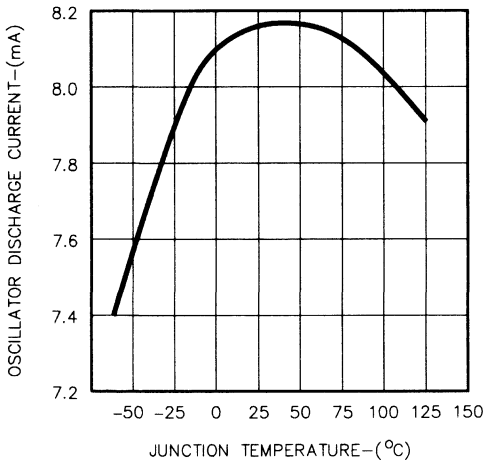

Figure 7. Oscillator Current vs. Temperature
reached, comparator (A1) changes state, causing (S1) to switch to position (2) and (S2) to ( $V_V$ ) position. This will allow the capacitor to discharge with a current equal to the difference between a constant current ( $I_D$ ) and current through charging resistor ( $I_R$ ), until the voltage drops down to  $\approx 1.1V$  nominally and the comparator changes state again repeating the cycle. Oscillator charge time results in the output to be in a high state (on time) and discharge time sets it to a low state (off time). Since the oscillator period is the sum of the charge and discharge time, any variations in either of them will ultimately affect the stability of the output frequency and the maximum duty cycle. In fact, this variation is more pronounced when the maximum duty cycle has to be limited to less than 50%. This is due to the fact that for longer output off time, capacitor discharge current ( $I_D - I_R$ ) must be decreased by increasing  $I_R$  current. (NOTE:  $R_T$  value should always be greater than  $520\Omega$  or the oscillator may stop functioning). Consequently, this increases the sensitivity of the frequency and duty cycle to any small variations of internal current source ( $I_D$ ), making this parameter more critical under those conditions. As a result, this parameter is trimmed to a nominal current value of  $8.2\pm 0.5mA$  at room temperature, and guaranteed to a maximum range of 7 to 9mA over the specified ambient temperature range. Figure 7 shows the variations of  $I_D$  over temperature.